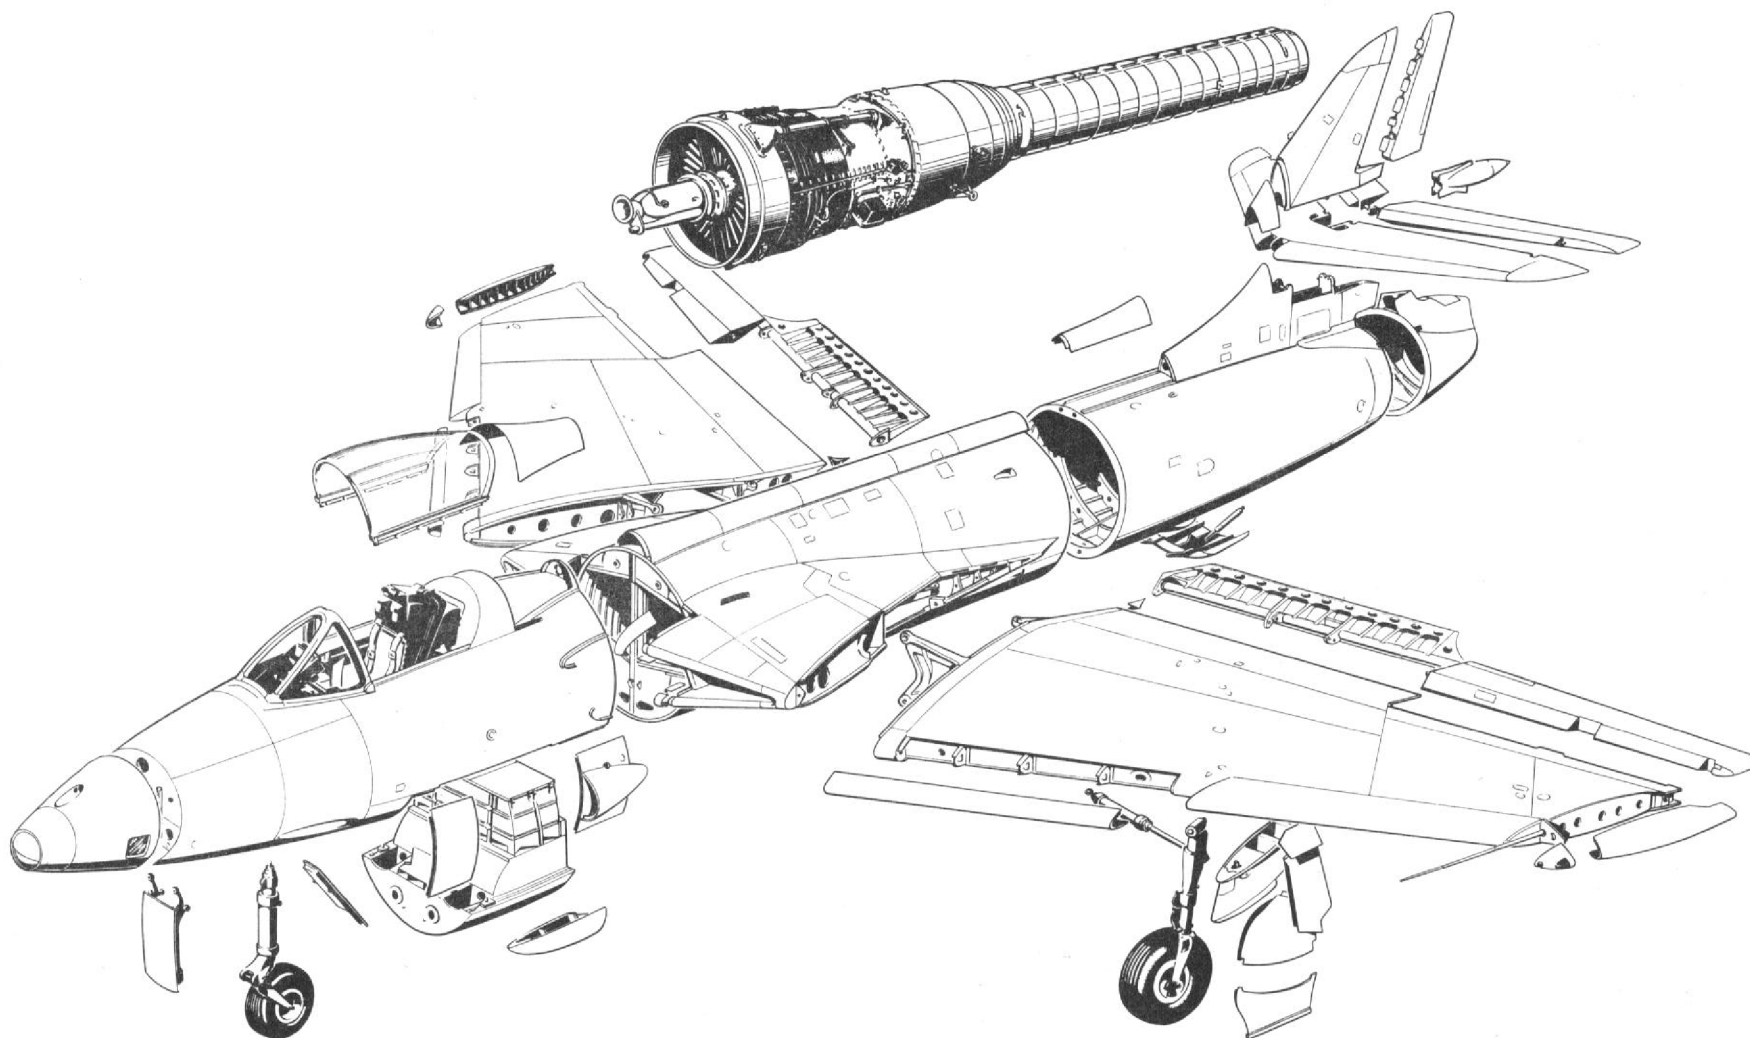

Fig. 1 Major components
Packing Dimensions (fig.1)
4. The breakdown points for dismantling the aircraft are shown in fig.1. The recommended order of dismantling is as follows:-